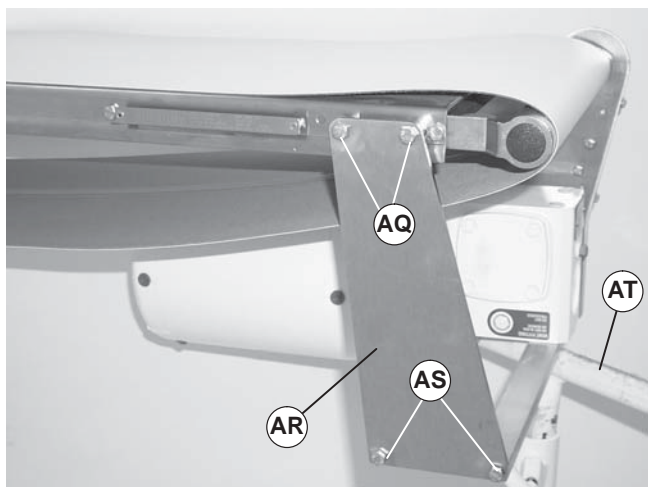
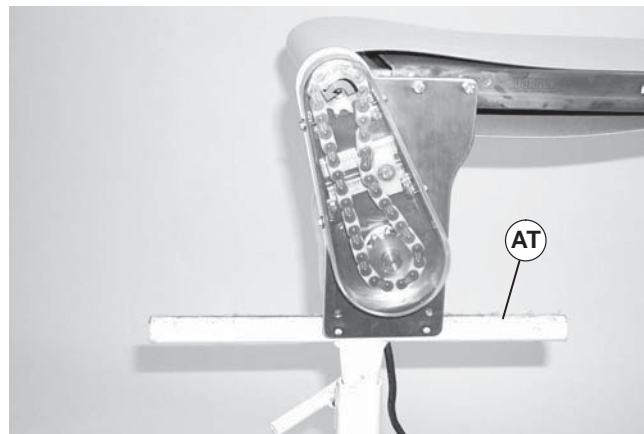

Figure 21
Figure 22
For conveyor with a Heavy Load Bottom or Top Gearmotor Mounting Package, bracket (Figure 21, item AR) must be removed.
The weight of the gearmotor is all on one end of the conveyor which could cause it to tip off the stands when the mounting clamp plates are loosened. Be sure to provide support (Figure 21, item AT) and (Figure 22, item AT) underneath the gearmotor while changing the belt.
6. Place a temporary support (Figure 21, item AT) and (Figure 22, item AT) under gearmotor mounting package.
6. For a conveyor with a Heavy Load Bottom or Top Mounting package, install bracket (Figure 21, item AR).